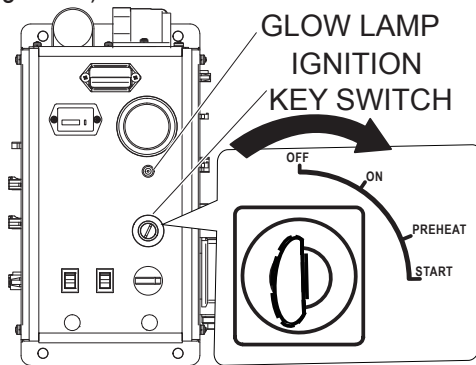

Figure 16. Ignition Switch
3. Insert the ignition key into the ignition key switch (Figure 16).